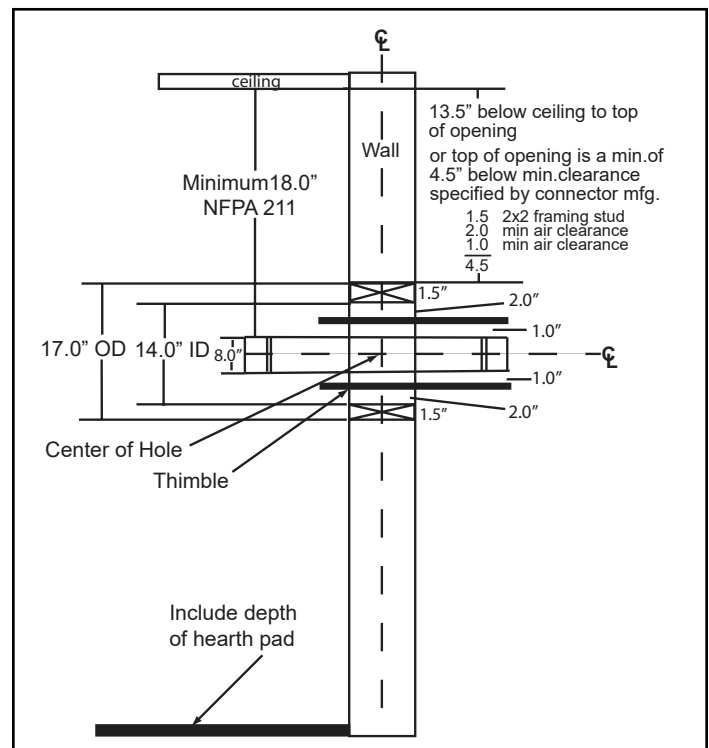

Figure 14.2
- Top of wall opening is a minimum of 13-1/2 inches (343mm) from ceiling or 4-1/2 inches (114mm) below minimum clearance specified by chimney connector manufacturer. NFPA 211 minimum vertical clearance of 18 inches (457mm) from chimney connector and ceiling or minimum recommended by chimney connector manufacturer (**Figure 14.2**).
1. Open inside wall at proper height for the chimney connector to entry the masonry chimney (**Figure 14.2**).
3. Construct a 17 inch x 17 inch (432mm x 432mm) outside dimension frame from 2 x 2 framing lumber to fit into wall opening. Inside opening of frame should be no less than 14 inch x 14 inch (356mm x 356mm) (**Figure 14.2**).